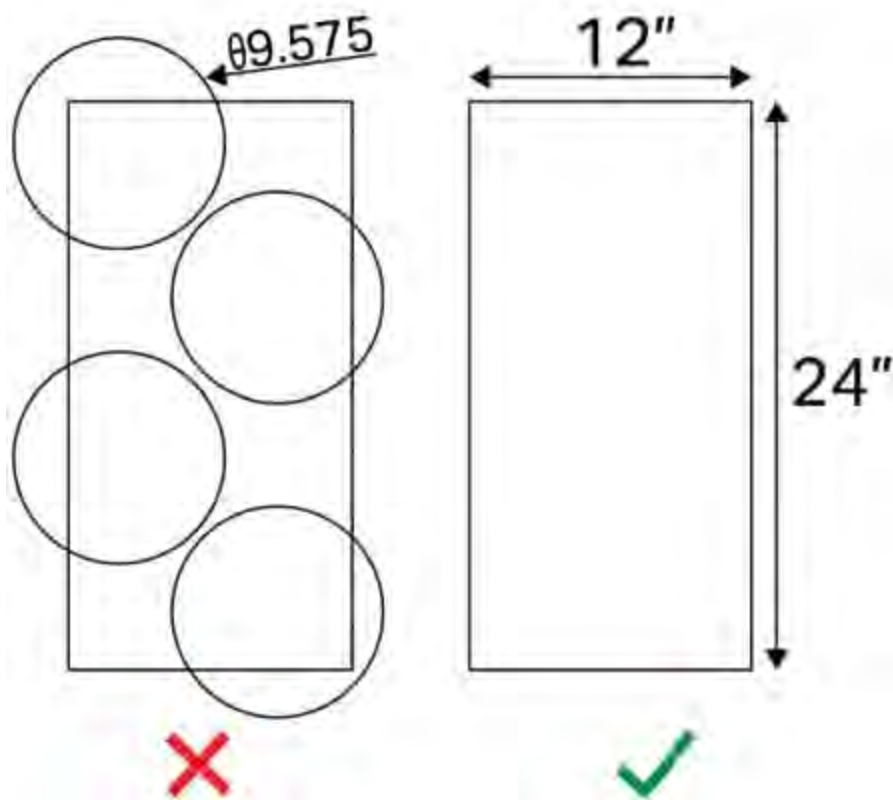

Figure 36: Custom plastic parts must fit within a single 12" x 24" sheet of plastic.
- i. A collection of parts which theoretically have a total surface area of 288 in², but cannot be nested onto a single 12" x 24" sheet, would not be legal. See Figure 36.